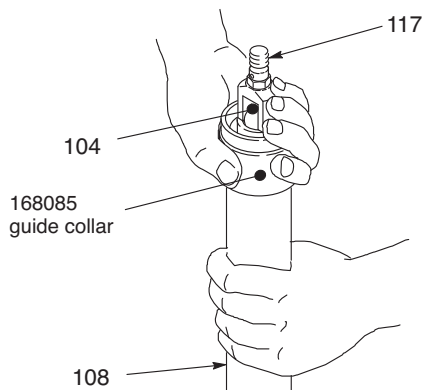

FIG. 15
24. Grease the inside top of the displacement cylinder (108) opening. Thread the guide collar, Part No. 168085, onto the displacement cylinder. Slide the packing assembly into the collar/cylinder. Remove the guide collar. (FIG15)
1. Grease the inside top of the displacement cylinder (108) opening. Thread the guide collar onto the displacement cylinder. Slide the packing assembly into the collar/cylinder. See FIG. 15. Remove the collar guide.